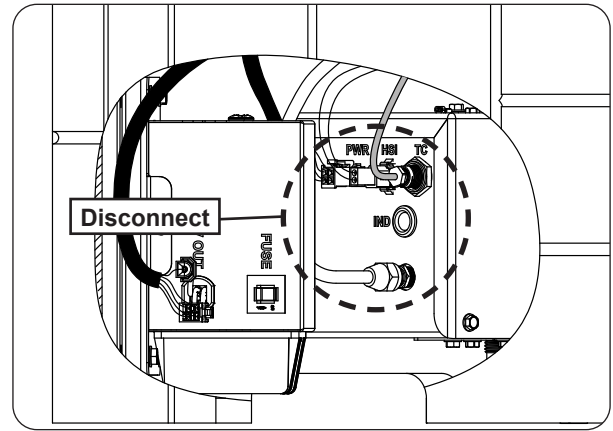

Fig. 30-1 Disconnect pilot line, thermocouple, and hot surface igniter from control box
5. Disconnect the pilot line, thermocouple, and hot surface igniter from the control box (see Fig. 30-1).